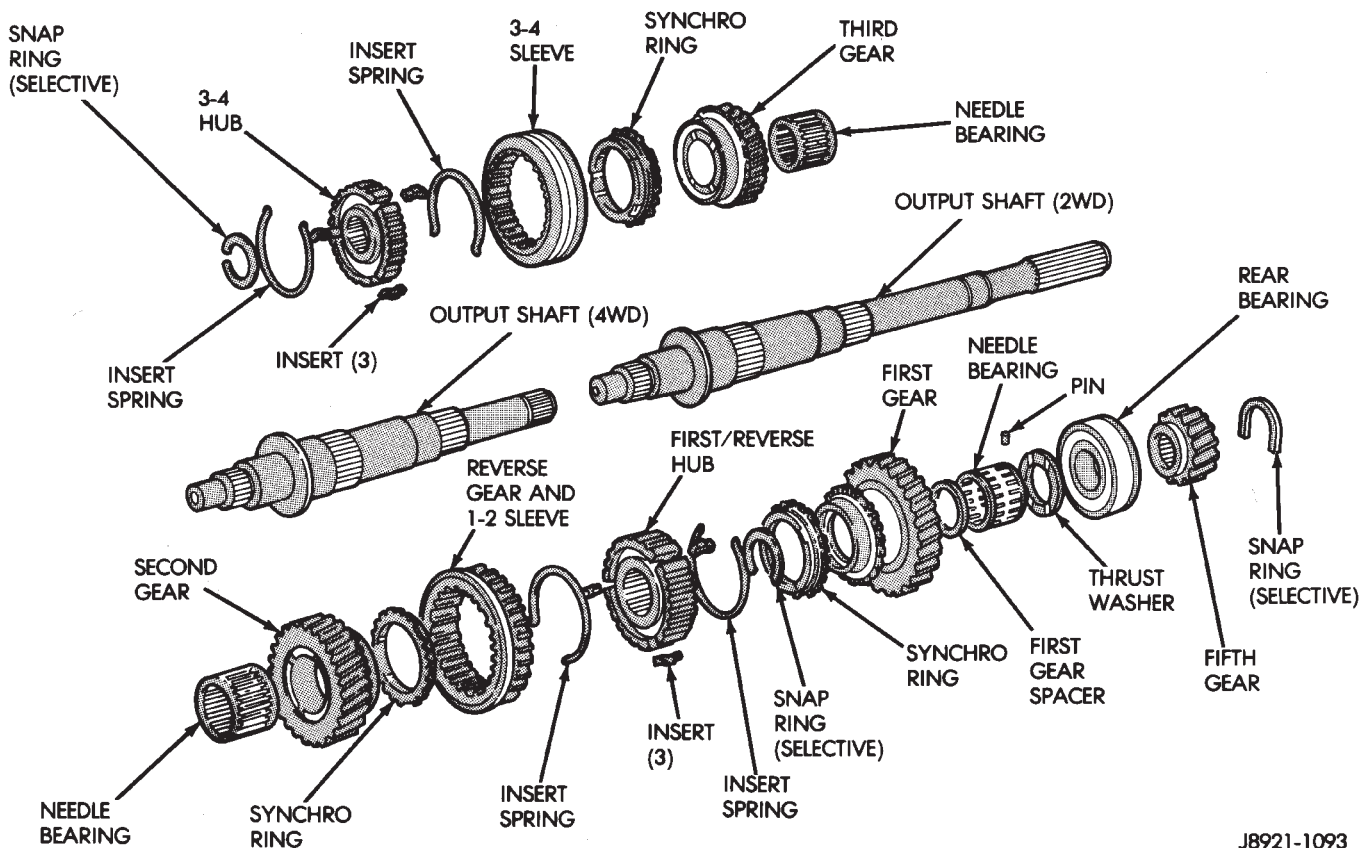

Fig. 63 Output Shaft And Gears
- (5) Remove first/reverse hub snap ring (Fig. 63).
- (6) Remove synchro ring.
- (7) Press reverse gear and first/reverse hub off shaft as assembly.
- (8) Remove remaining synchro ring and second gear and bearing (Fig. 63).
- (9) Remove snap ring at front of output shaft (Fig. 63).
- (10) Press 3-4 hub and sleeve off output shaft as assembly (Fig. 63).
- (11) Remove synchro ring.
- (12) Remove third gear and needle bearing (Fig. 63).
- (1) Lubricate output shaft journals, gears and needle bearings with recommended gear lubricant.
- (2) Install third gear and needle bearing on shaft (Fig. 63)
- (3) Install synchro ring on third gear (Fig. 63).